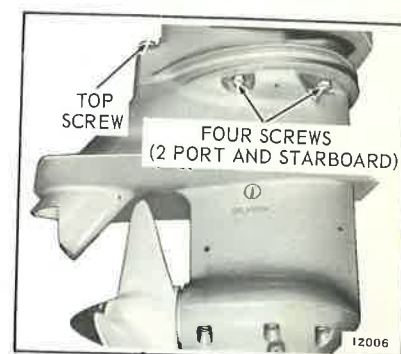

Figure 6-5. Gearcase Attaching Screws
- Remove five screws attaching gearcase (or gearcase extension, if used) to exhaust housing. See Figure 6-5.